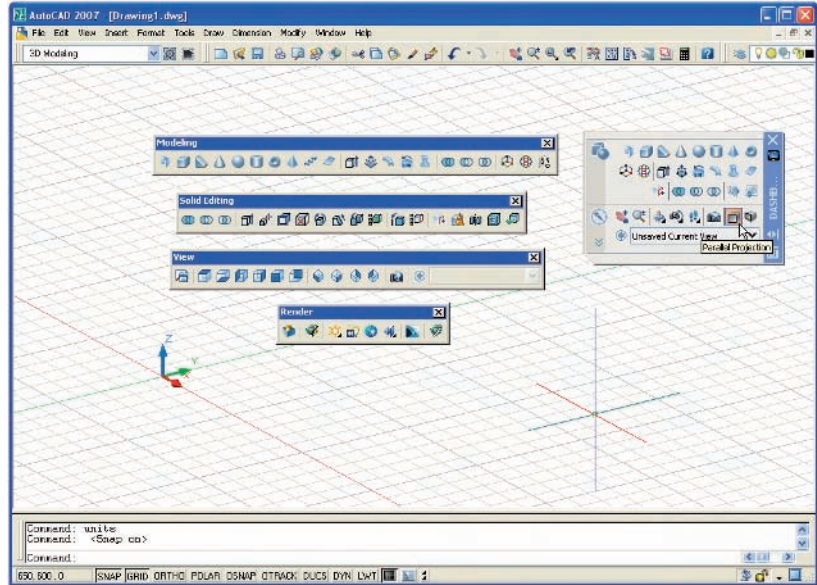
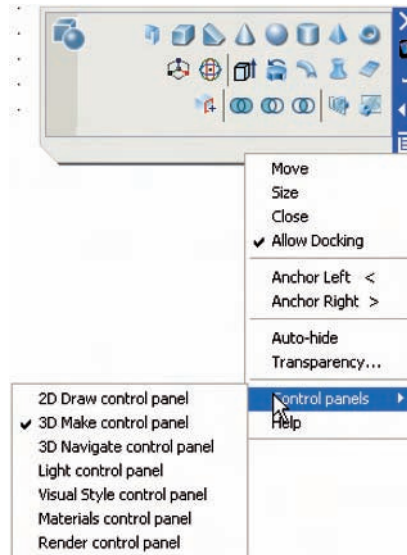
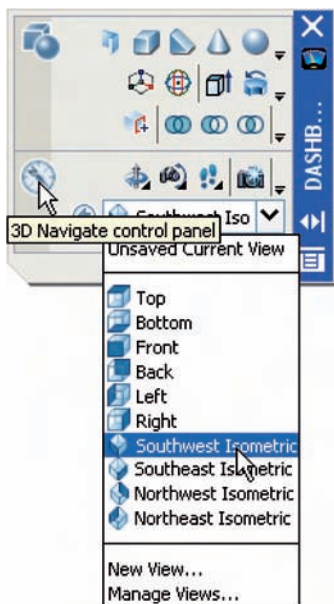

Fig. 13.1 The **3D Modeling** workspace showing four toolbars and the **3D Make control panel**
Fig. 13.2 Ensuring only the **3D Make control panel** is showing from the **DASHBOARD** palette
Fig. 13.7 Selecting **Southwest Isometric** from the popup list in the **3D Navigate control panel**
It is possible to construct 3D model drawings in the **AutoCAD Classic** workspace, but in this part of the book we will be working in the **3D Modeling** workspace. To set this workspace *left-click* the **3D Modeling** icon in the **Workspaces** toolbar and the AutoCAD screen changes as shown in Fig. 13.1. In this example the four main 3D modelling toolbars have been shown on screen, together with the **3D Make control panel**. It is not necessary to have the toolbars or control panel on screen. It is up to the operator to decide which of the available methods for calling tools for 3D modelling they wish to use. Toolbars can be called to screen with a *right-click* in any toolbar on screen, followed by selecting the required toolbar from the menu which then appears.
To bring the **3D Make control panel** from the **DASHBOARD**, *right-click* in the title bar (blue area to the right of the palette) and make sure a tick is in place only against the **3D Make control panel** (Fig. 13.2) and not against any of the other control panel names in the sub-menu. In Fig. 13.1 the **3D Navigate control panel** is shown in the **DASHBOARD** with the **Parallel Projection** icon selected.
3D Views can be called from the **3D Navigate control panel** (Fig. 13.7). Open the panel in the **DASHBOARD** (see Fig. 13.2, page 188) and left-click on the arrow to the right of the popup list name.
1. In the above example we made use of one of the isometric views possible using the **3D Views** sub-menu of the **View** drop-down menu or from the **3D Navigate control panel** (Fig. 13.7). These views will be